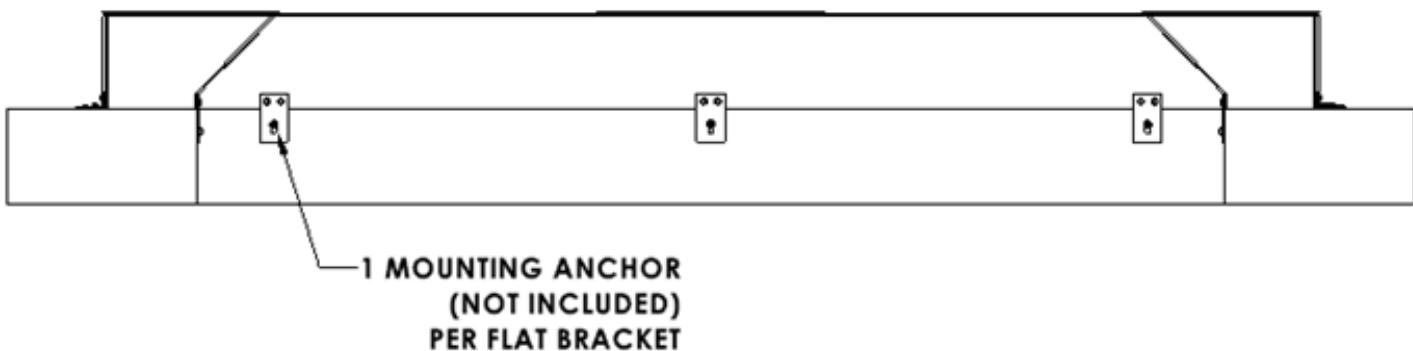

FIGURE 16
- a. Place the Head Pad Assembly on the top of the Side Pads. Shift the Head Pad Assembly horizontally until the center mark on the Head Pad Assembly aligns with the center marking on the building (Step 1). The ends of the Head Pad Assembly should be flush with the Side Pads. Use 1/2" or 3/8" diameter anchors that are at least 1 7/8" long (supplied by the contractor) to secure the (3) Flat Brackets to the top of the door opening on the inside—use 1 fastener per bracket. (Figure 16).